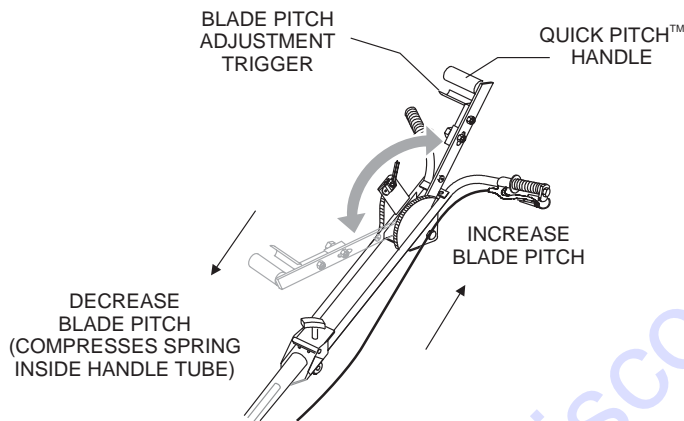

Figure 17. Quick Pitch™ Handle
1. To pitch the blades upwards using the “**Quick Pitch™ handle**,” (Figure 17) simply squeeze the trigger lock and pull the handle towards the operator. Pushing the handle towards the engine will cause the blades to lay flat.